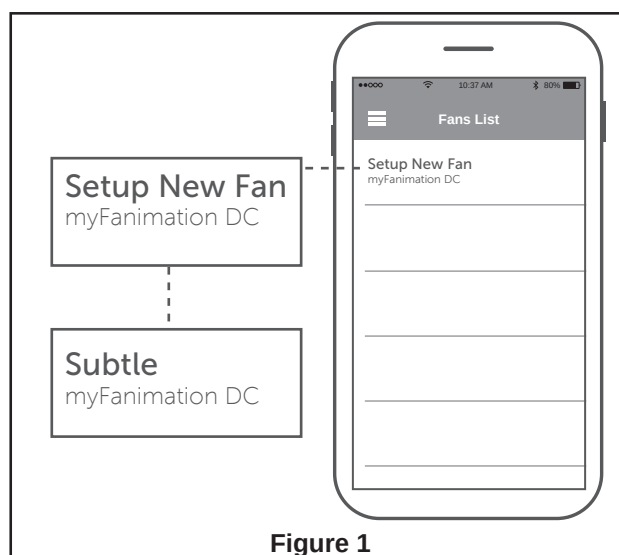

Figure 1
1. Open the fanSync app and tap the new fan to begin setup. (Figure 1)
- ☐ 1. **Installing Wall Holder:** (Figure 1)